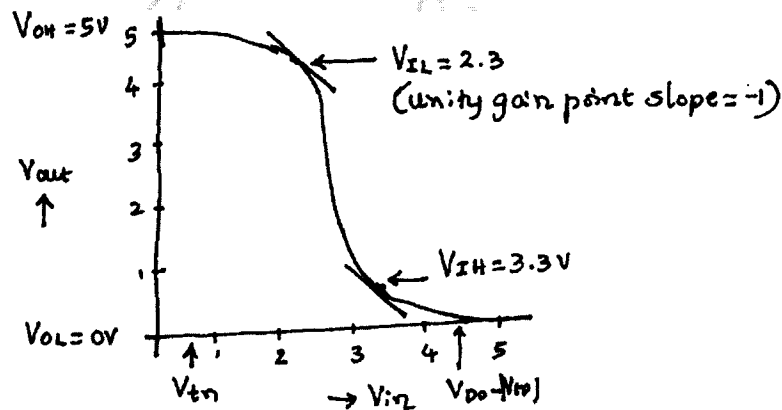

Fig.Q.1(c)
c. Define noise margin. Calculate the noise margins for the transfer characteristic of typical inverter, shown in Fig.Q.1(c). (06 Marks)